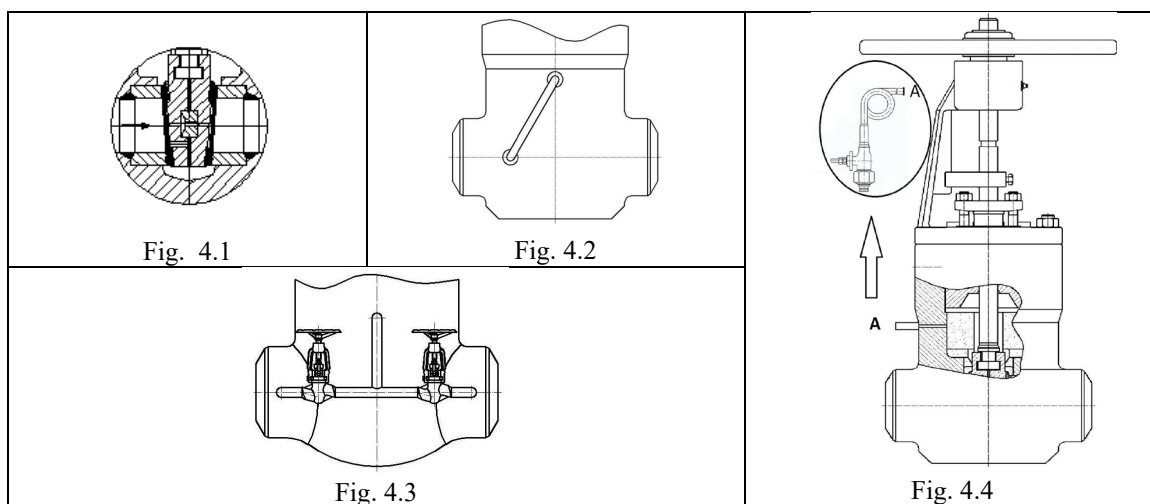

Figure 4. Overpressure safety executions
- In case in the gate valve in the closed position the temperature of the fluid (mainly water) increase in the chamber above the wedge impermissibly high pressure can occur. In order to prevent failure or damage of pressure-relating parts gate valves should be equipped with some of the presented constructive solutions (Figure 4). For gate valves where flow is always in one direction simplest overpressure safety device should be provided with hole in the wedge / seat (Figure. 4.1) or by equalizing pipe (Fig. 4.2). When gate valve is bidirectional overpressure safety device should be provided by equalizing pipe and bypass valves (Figure 4.3). One of approved execution is installation of safety valve in the gate valve body (Figure. 4.4).